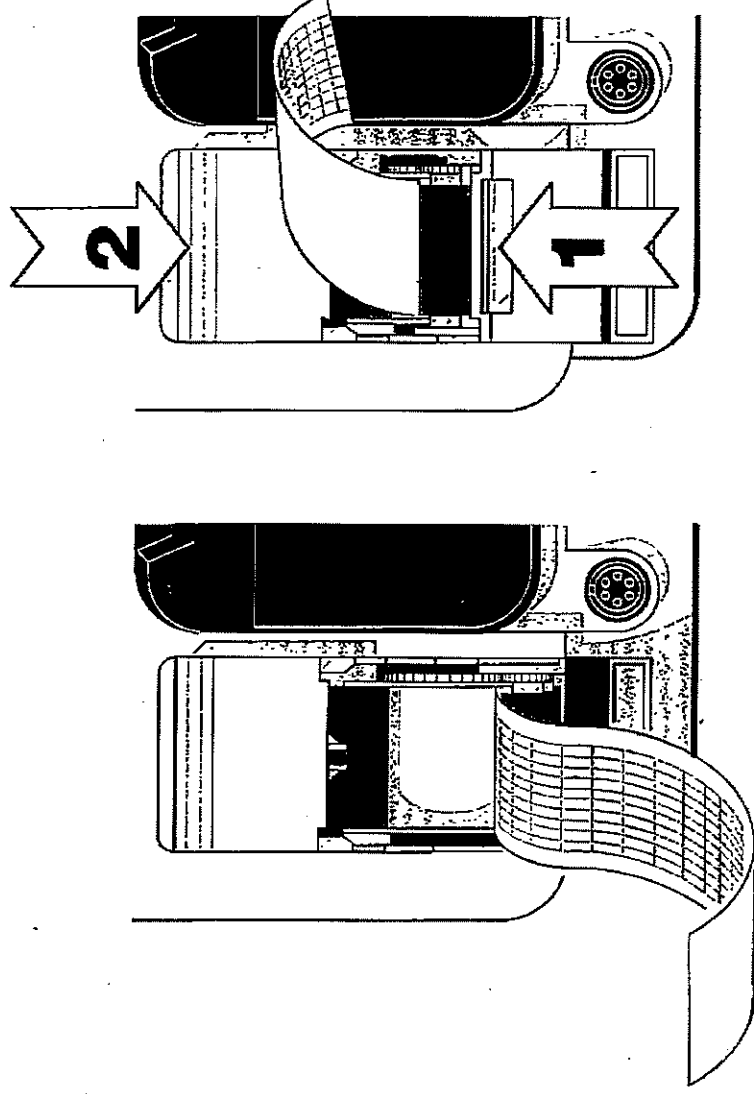

Figure 4-1 Loading paper into the recorder
To load paper into the recorder (see Figure 4-1):
- 5 Close recorder case. Press bottom recorder door up (see 1, *Figure 4-1*) and in and press top recorder door down (see 2, *Figure 4-1*).